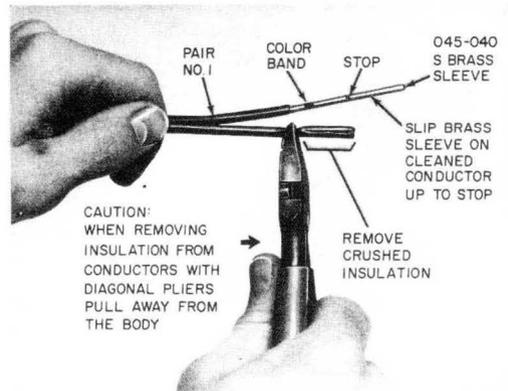

Fig. 4—Removing Insulation and Installing Brass Sleeve (Drop Wire)
POLE AT ROADS EDGE (WITHIN 50 FT OF FAR EDGE [FIG. 4]) *	D
POLE AT ROADS EDGE (WITHIN 50 FT OF FAR EDGE [FIG. 4])	F
POLE AT ROADS EDGE (WITHIN 50 FT OF FAR EDGE [FIG. 4])	H
(4) Remove insulation, clean conductors with diagonal pliers, and install brass sleeves (Fig. 4).